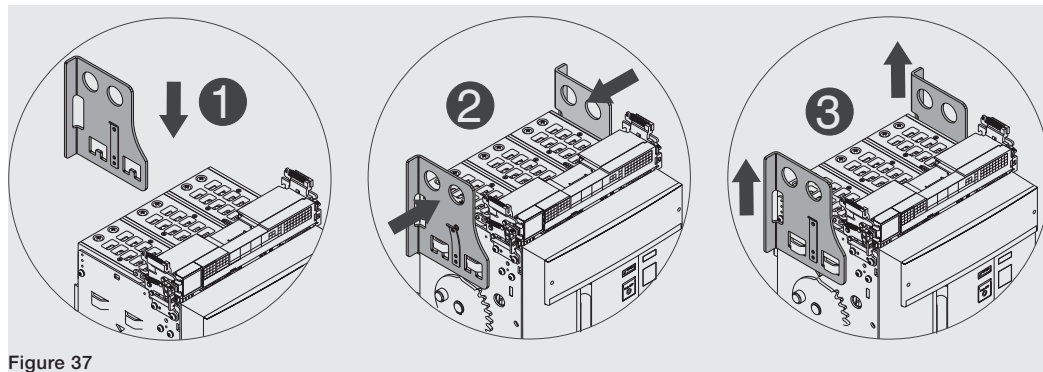

Figure 37
1. Position the lifting plates on the mobile part making sure that the tongue of the plates is latched properly. See Figure 37.